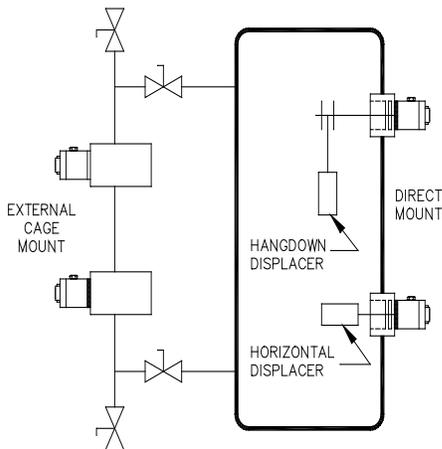

FIG. 1
The Ruelco Model 30C2 is a 2" NPT mounted pneumatic liquid level switch. It is typically mounted directly into a tank or vessel or in an optional external cage (See Figures 1 and 2). Horizontal or hang down displacer elements are available.
It is suggested that the "FLEX-LEVEL" be installed in an external cage for maintenance and testing purposes. One recommended piping system for mounting an external cage to a vessel is shown in Figure 1. The valves above and below the cage are required for testing and maintenance purposes.
5.0 DISASSEMBLY (SEE FIG. 1 and 3)